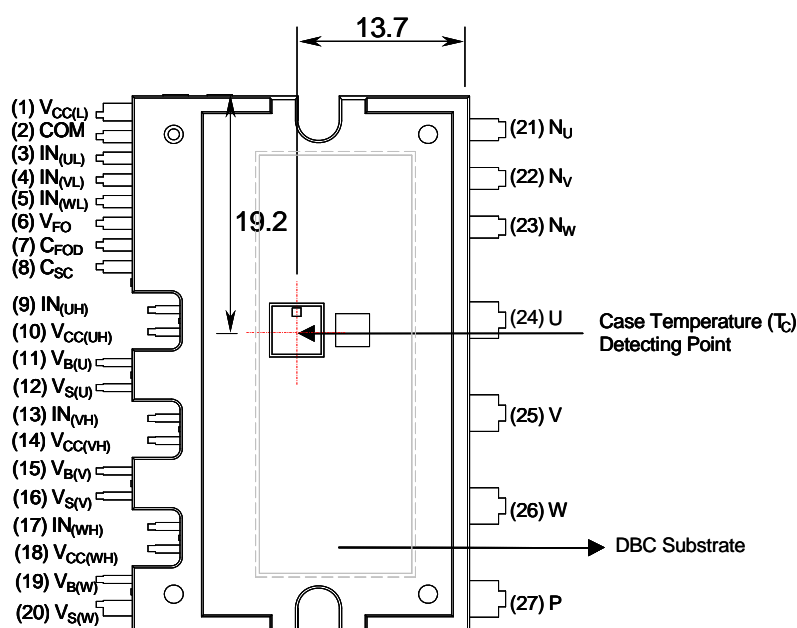

Figure 2. Top View
- For the measurement point of case temperature( $T_C$ ), please refer to Figure 2.